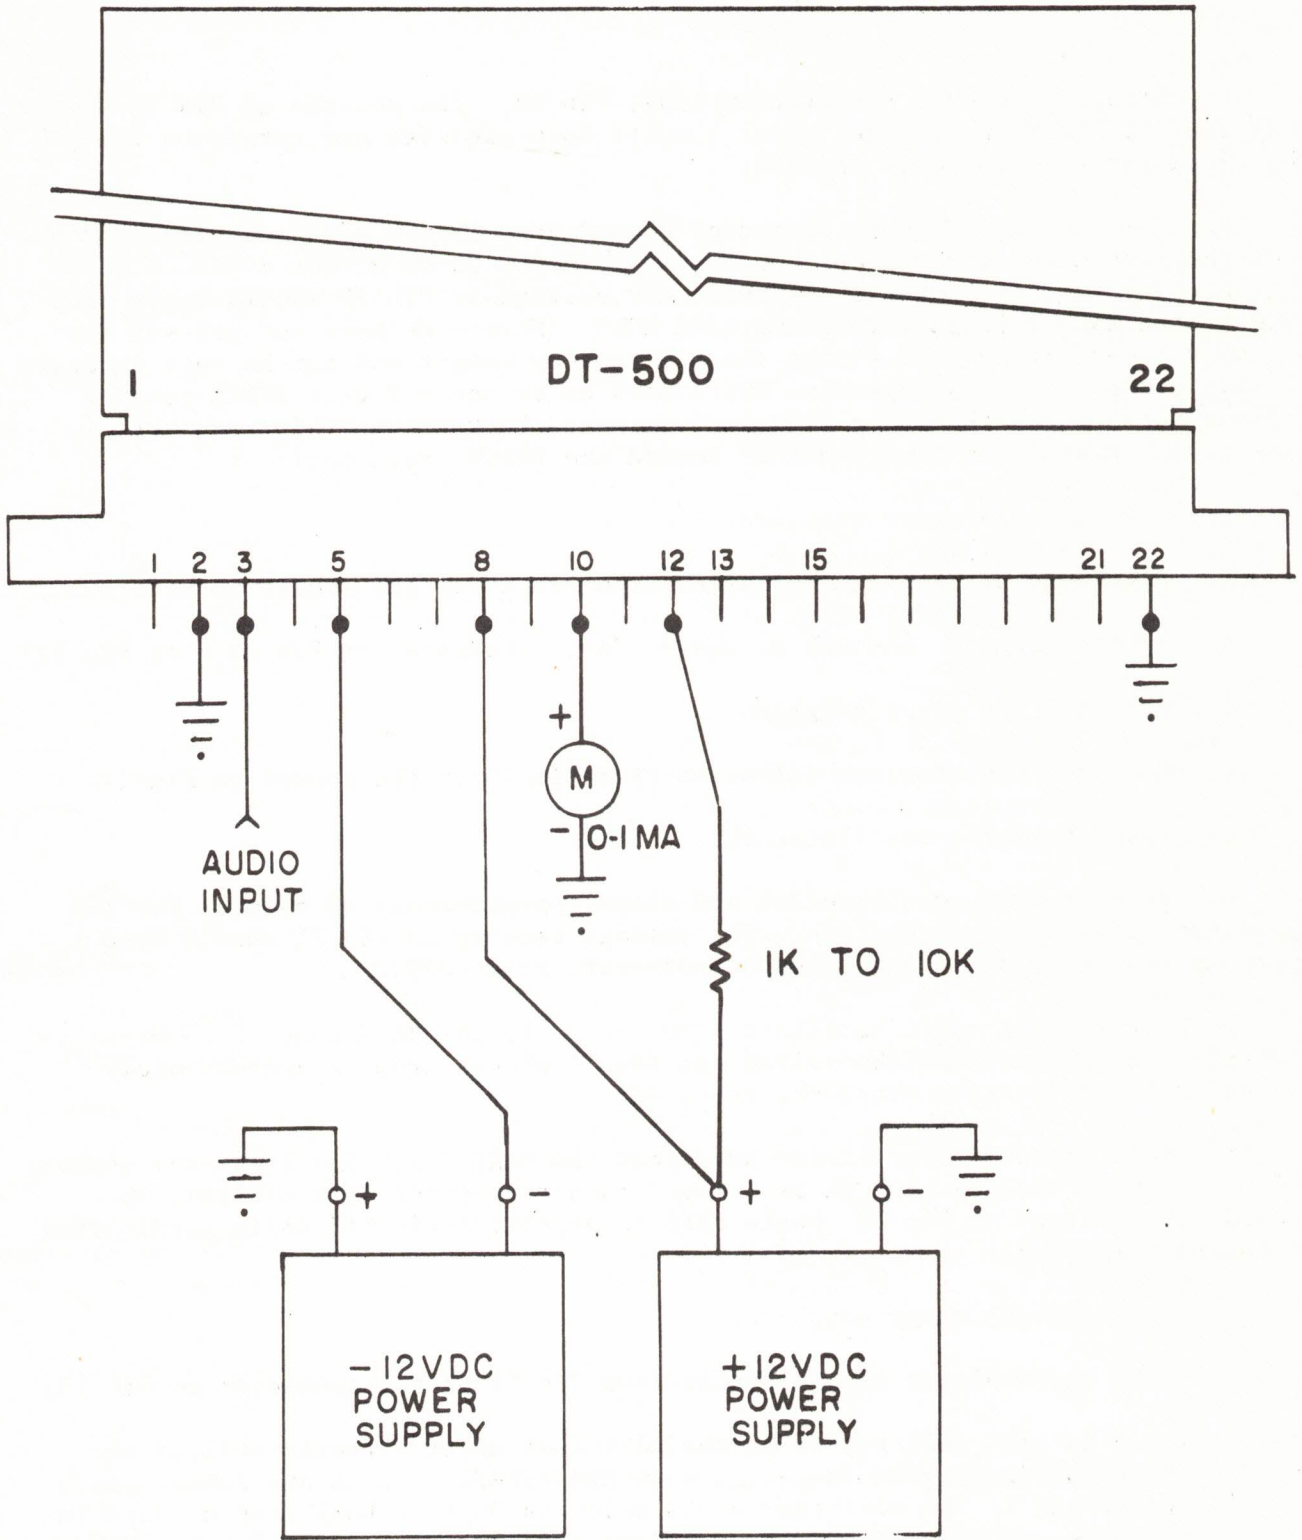

FIGURE 4-1
Referring to Figure 4-1, temporarily connect the power supplies, audio input, tuning meter, and the above mentioned resistor to the card edge connector. Plug the circuit board into the connector using care to match the card edge pin numbers to the socket pin numbers.
b. Making sure that the audio oscillator is off or disconnected, ground the audio input lead (connects to Pin 3 as shown in Figure 4-1).